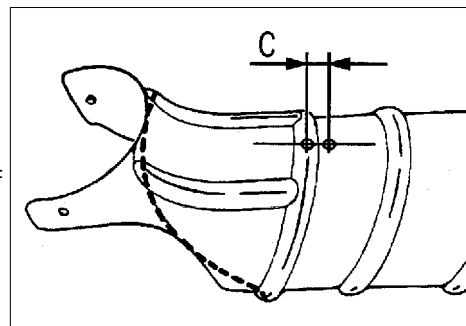
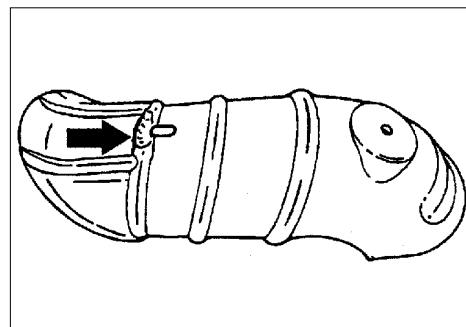

Figure 3
Figure 4
2.2.1 Starting from the first rib, symmetrically transfer the cut the edge (figure 3, dashed line) onto the heat shields.
2.2.2 Mark dimensions C = 10mm (figure 3) symmetrically between the longitudinal ribs as shown in figure 3.
2.2.4 Use a hammer to flatten the rib in the center of the heat shield (arrow in figure 4). Drill two 7mm holes at the markings (dimension C in figure 3) and make a slot between them.